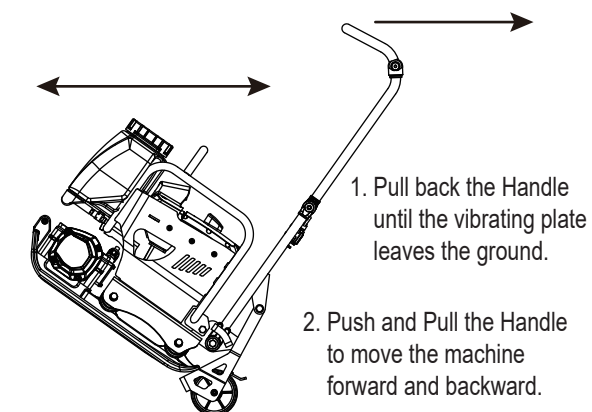

Fig.6
3. Check that the cart rotates smoothly by moving the machine forward and backward. (Fig.6)